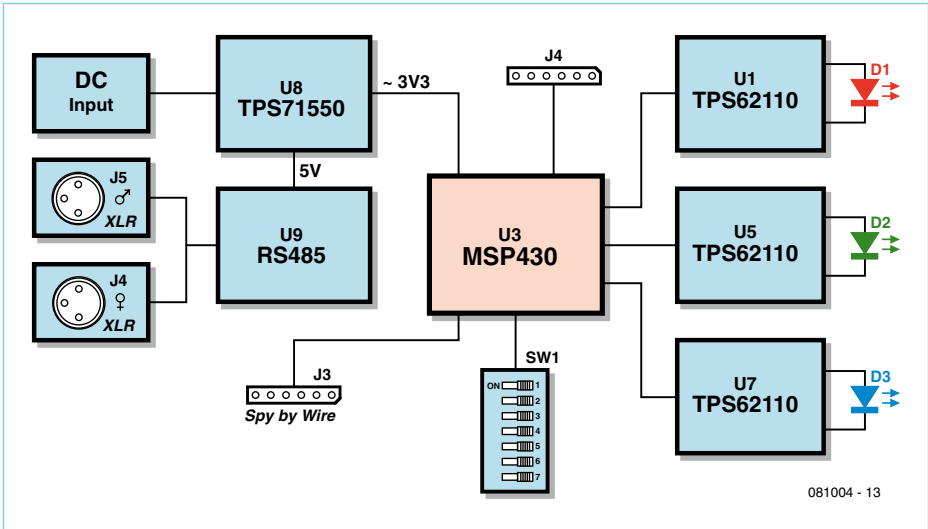
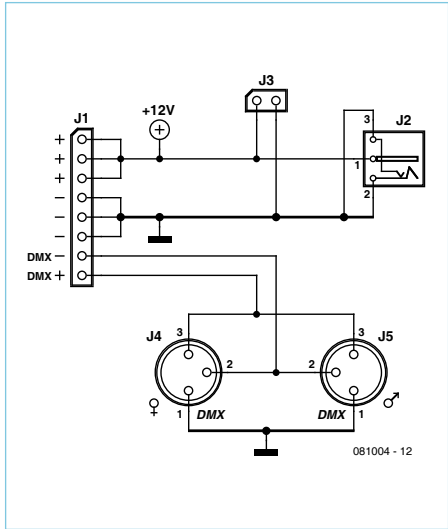
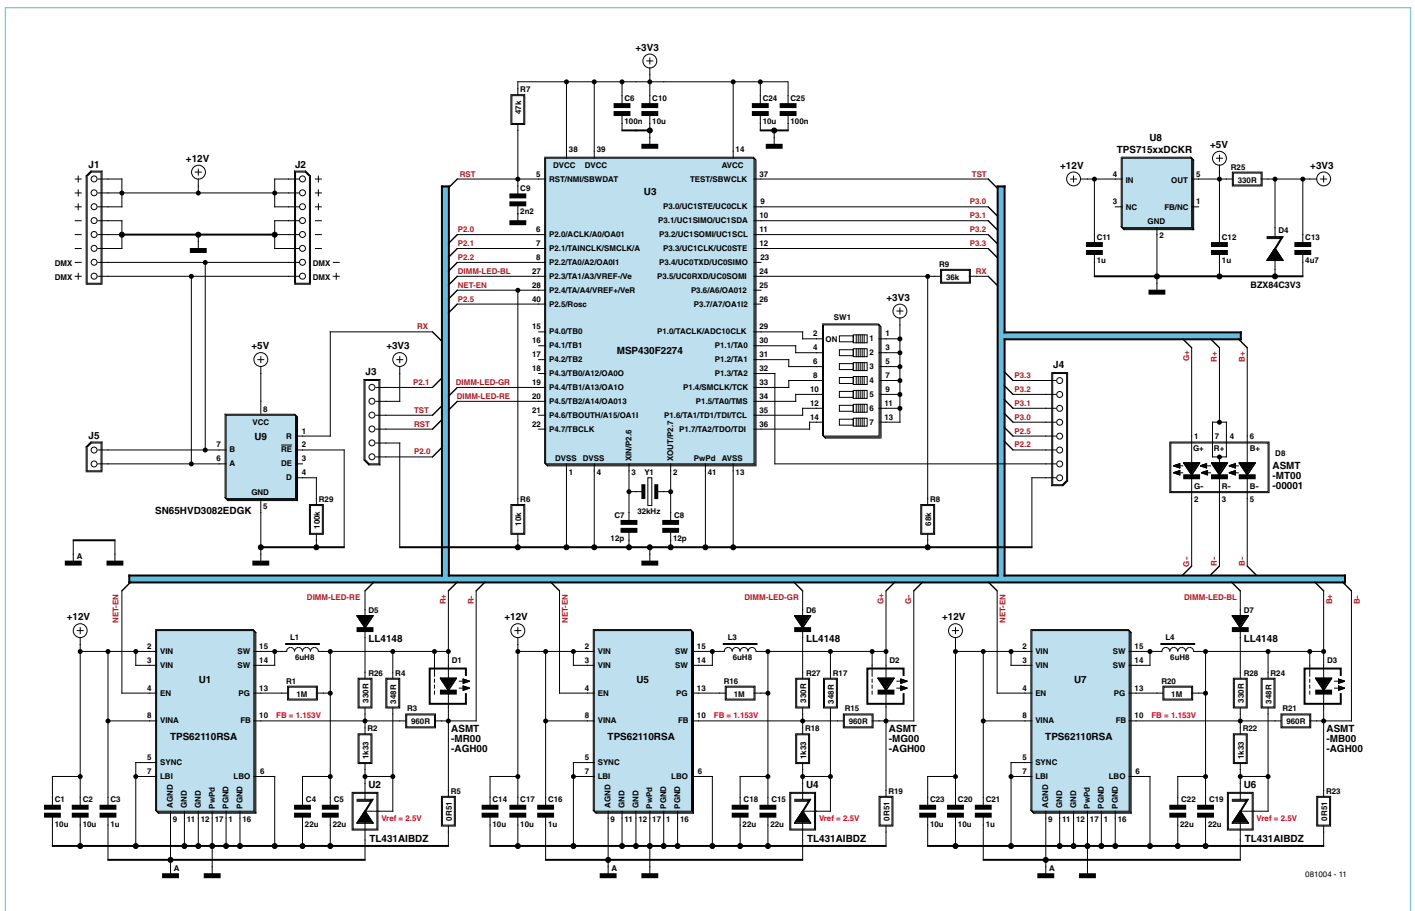

Figure 1. Block diagram of the three-channel DMX receiver and LED driver.
Figure 2. Schematic diagram of the adapter board for the DMX receiver and AC power adapter cable connections.
Figure 3. Complete schematic diagram of the DMX512-A three-channel receiver.
As can be seen from the block diagram in **Figure 1**, the key component here is an MSP430 microcontroller, which receives a logic-level signal via an RS485 receiver IC. As already mentioned, the specification says that 5-way XLR connectors should be used by preference, but 3-way connectors are most often used in practice. Consequently, the adapter board for connecting the DMX cable (see the schematic diagram in **Figure 2**) is designed for 3-way XLR connectors (male and female). Operating power is provided by a standard AC power adapter, which supplies 12 VDC at 1 A and is connected to J1 (DC power socket) on the adapter board. All three constant-current sources on the main board (see the schematic diagram in **Figure 3**) operate directly from this power source. Linear voltage regulator U8 (a TPS71550) provides a 5-V supply voltage for the RS485 IC (U9).
error amplifier input, so that the voltage drop across resistor R5 can be reduced by the amount of the bias voltage. Resistor R5 has a resistance of 0.51 Ω the circuit shown in Figure 2, which produces a voltage drop of 179 mV at 350 mA and results in only 63 mW of power dissipation in the resistor. The value of R5 can be reduced for use with a higher current.
After determining the desired operating current for the circuit shown in Figure 2 (such as 350 mA) and choosing a value for R5, you can calculate the values of the resistor network (R2 and R3). This always involves a trade-off between regulation accuracy and power dissipation in R5. The accuracy increases as the voltage drop across R5 increases, but this also causes higher power dissipation. The following calculations are based on a design value of 1 mA for the current through the voltage divider.
**Figure 6** shows the adapter board for the DMX and power supply connections (see Figure 2 for the schematic diagram). The narrow PCB for the three-channel DMX receiver is shown in **Figure 7** (see Figure 3 for the schematic diagram). LEDs D1, D2 and D3 can be fitted as individual components (red, green and blue), or a single RGB LED can be fitted in position D8 (with D1–D3 not fitted). The adapter board plugs in to the side of the DMX LED board. Another DMX board can be connected at the far end, and yet another board to the end of the second board.